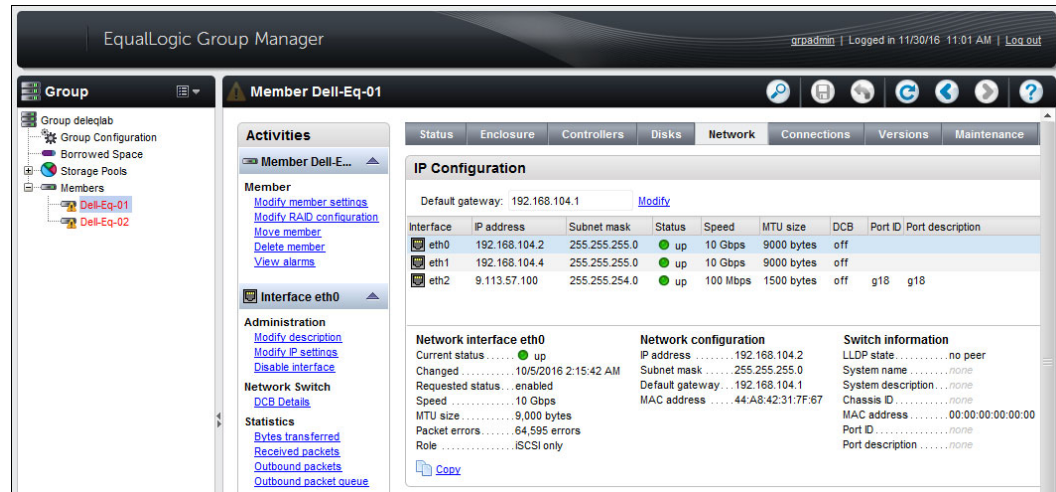

Figure 14-3 Network interface view of Dell Equallogic PS Series
1. From the Dell Equallogic PS Series Group Manager console in the browser, click **Member** → **Network**. This window that opens shows the IP configuration of the member, and displays a list of network interfaces, as shown in Figure 14-3.